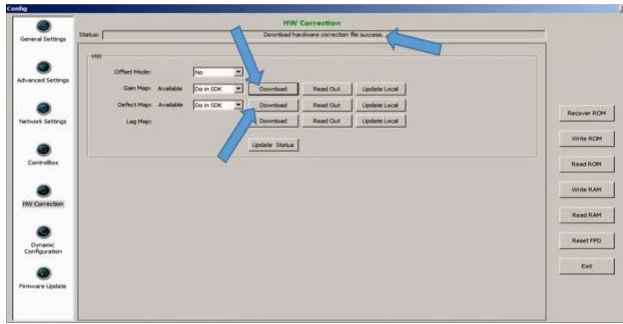

Figure 28: HW Correction
5. If you also performed a new Defect Calibration, click **Download** in line with the “Defect Map” (Figure 28) and wait for the status to change to “Download Hardware Correction File Success”.